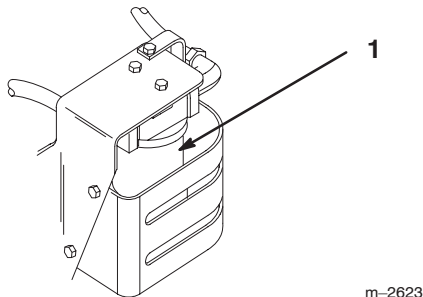

Figure 32
2. Place drain pan under filter, remove the old filter and wipe the filter adapter gasket surface (Fig. 32).